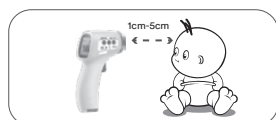

Figure 2: Measuring position and distance
- The thermometer is aligned with the middle of the forehead to measure body temperature (between the eyebrows center it above at the forehead level). Keep the vertical distance, press the On/Scan button, the temperature will display immediately, see Figure 2.
Measured over the distance: 1-5 cm (0.4-2in). Incorrect test position.	Optimum measurement distance is 1cm See Figure 2 measuring position and distance.